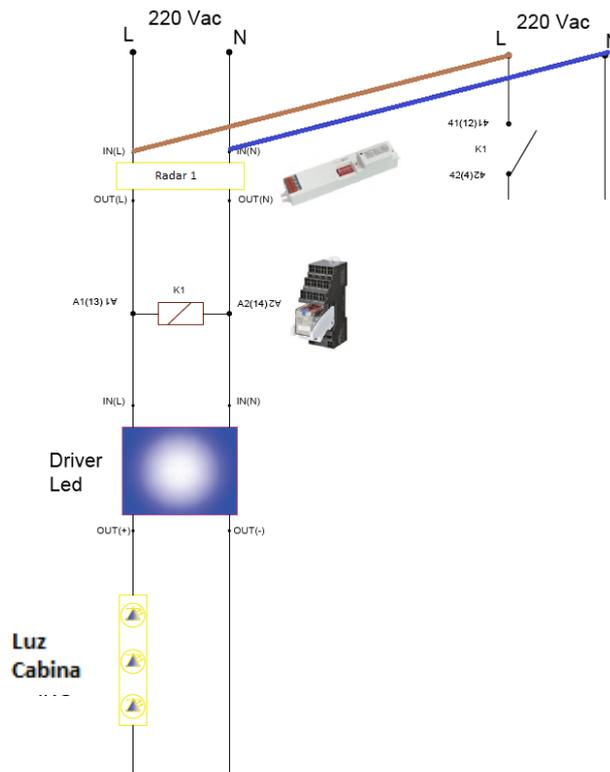

Fig. 5
- V. We will take phase (L) and it will connect to **pin 41 (12)** of the OMRON relay (Fig. 5): **IMPORTANT**.